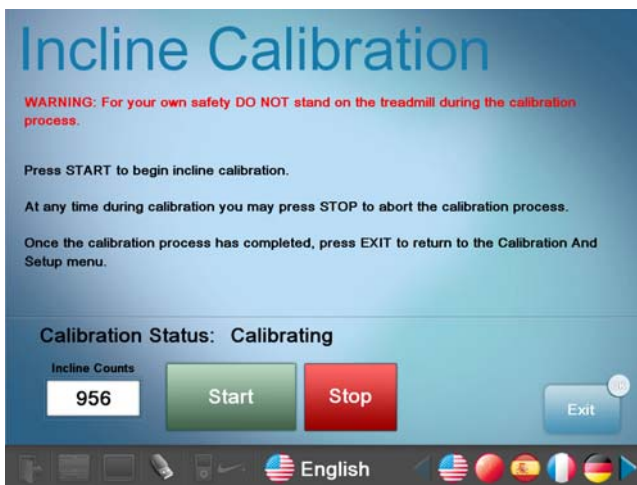
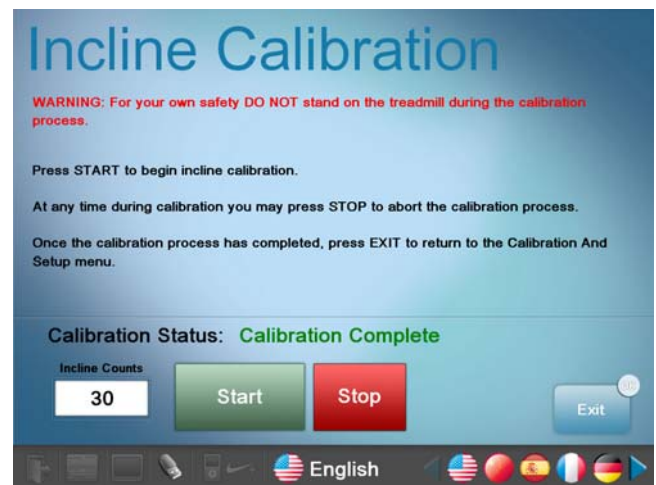

Fig. 5
Fig. 6
2. Press the 'Start' button to run the elevation calibration program (Fig. 5). Numbers will show on the "Incline Counts". The numbers will decrease while the unit elevates. When done, the Elevation Status will read "Calibration Completed" (Fig. 6).